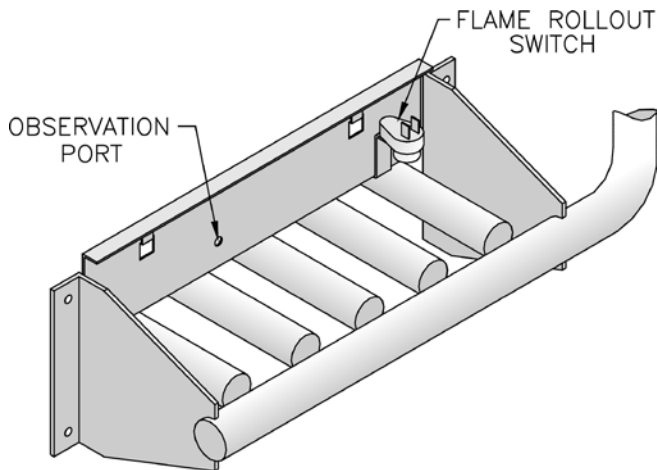

Figure 2: Flame Rollout Switch
4. **Flame Rollout Switch** See Figure 2. A device which automatically interrupts boiler operation when flames or excessive heat are present in the vestibule. The control is a single use device. Do not attempt to place boiler in operation if control was activated to interrupt boiler operation. Contact a qualified service agency.